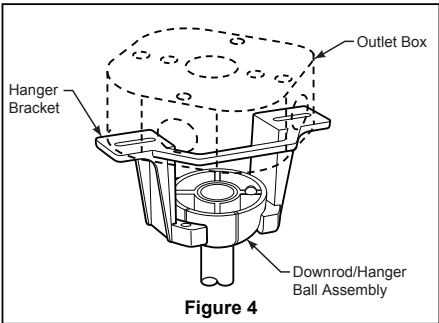

Figure 4
- ☐ 2. Carefully lift the fan and seat the downrod/hanger ball assembly on the hanger bracket that was just attached to the outlet box. Be sure the groove in the ball is lined up with tab on the hanger bracket. (Figure 4)